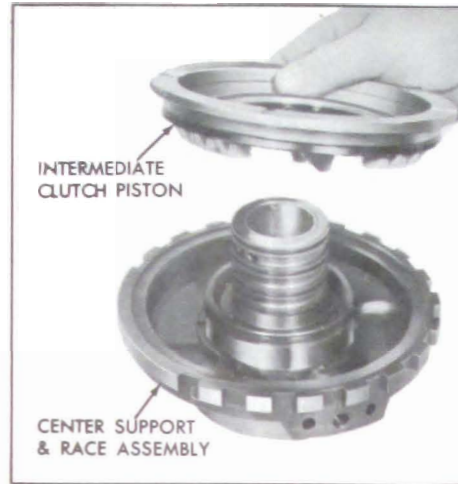

Figure 5-663
4. Remove the intermediate clutch piston. See Figure 5-663.